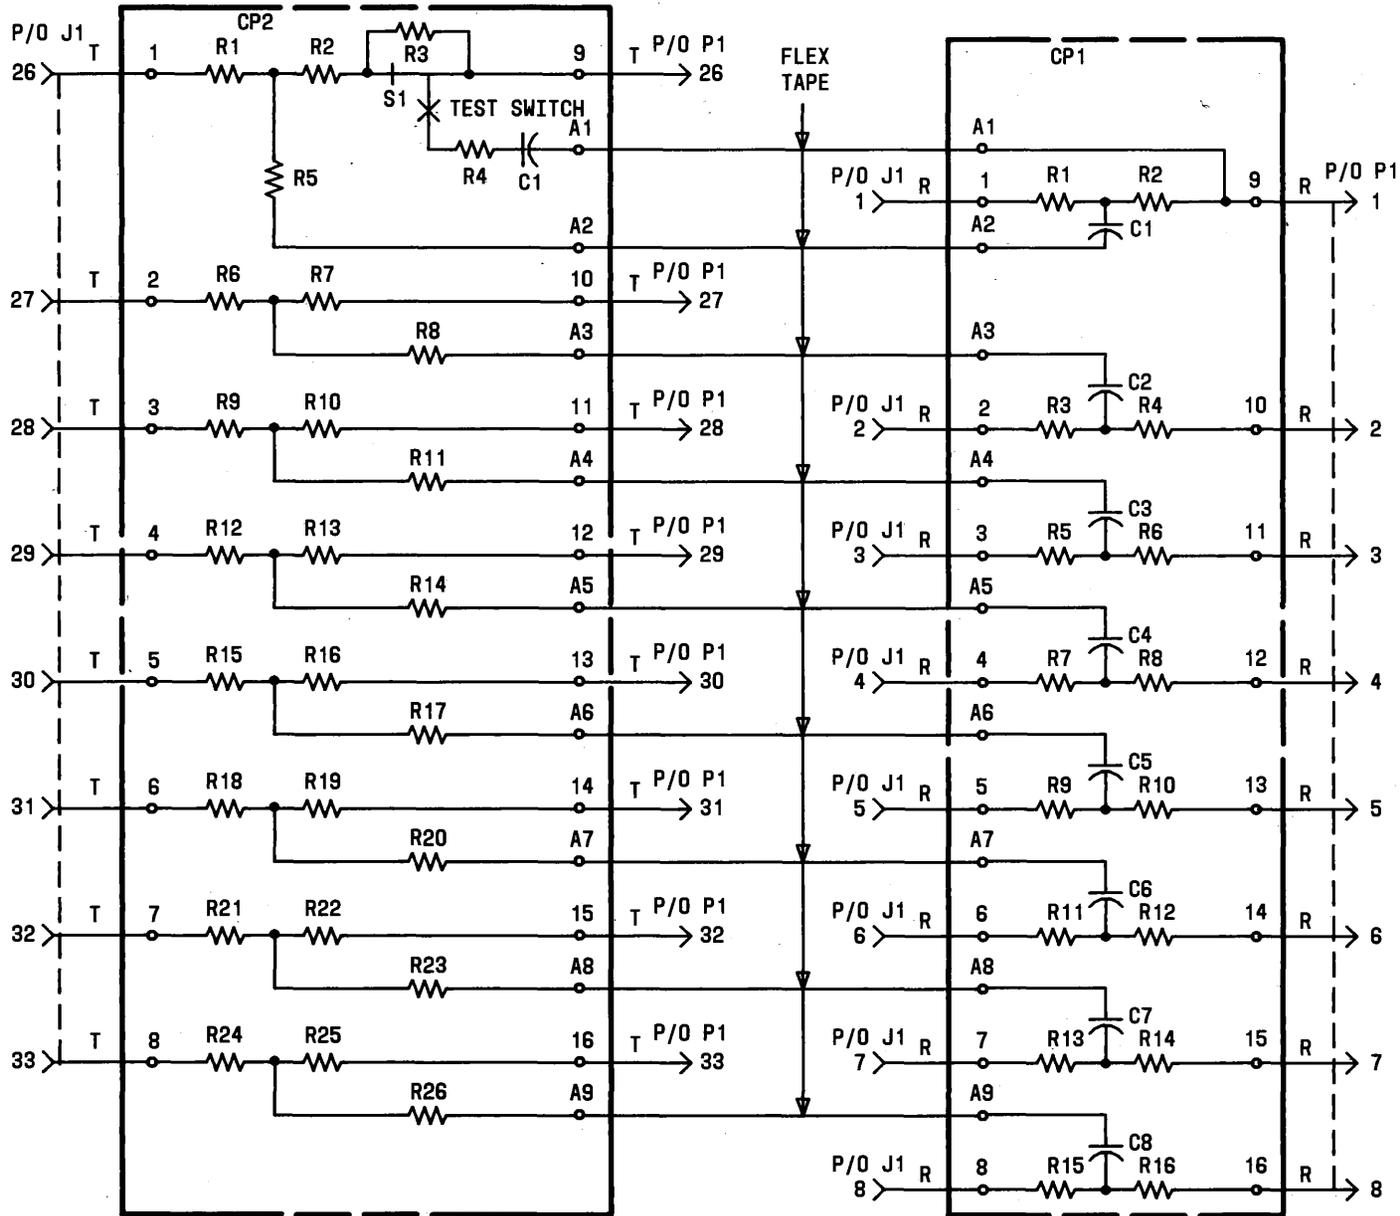

Fig. 4—330B Adapter—Schematic
5.05 As with the 330A adapter, proper operation of the tests in paragraph 5.01 does not assure sufficient margin for continued reliable service. Therefore, it is necessary to perform a margin test. To provide for this test in a 330B adapter, a test circuit actuated by a test switch is built into the 330B adapter for line 1 (Fig. 4). When the test switch is in test position, a lever extends from the side of the adapter as a warning that the circuit is not in the normal operating condition. The extended lever also prevents replacing the cover in wall-mounted arrangements. This prevents leaving the test switch in the test mode accidentally in the wall-mounted arrangement. When the 330B adapter is directly mounted on a 40A-type data mounting, it may be difficult to operate the switch. In this case, remove the